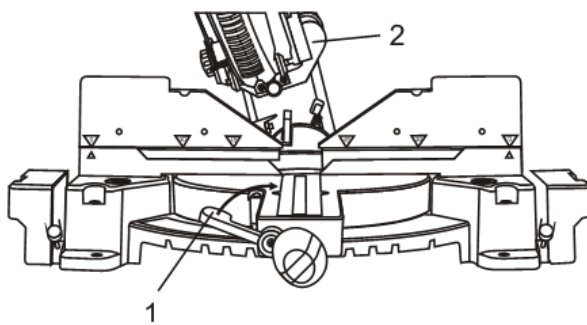

Fig. 10
1. Lift the bevel angle locking lever (1) upward and rotate it clockwise to allow the cutting head (2) to rotate (Fig. 10).